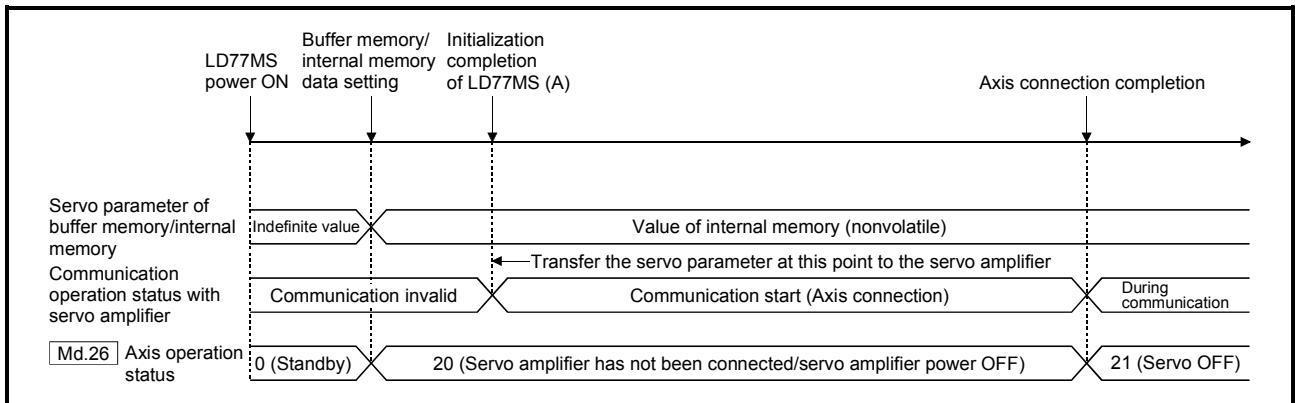

Fig. 7.1 When the servo amplifier had started before the system's power supply ON (The servo series of internal memory (nonvolatile) is set.)
Communication start timing to the servo amplifier: Initialization completion (Fig. 7.1 (A))